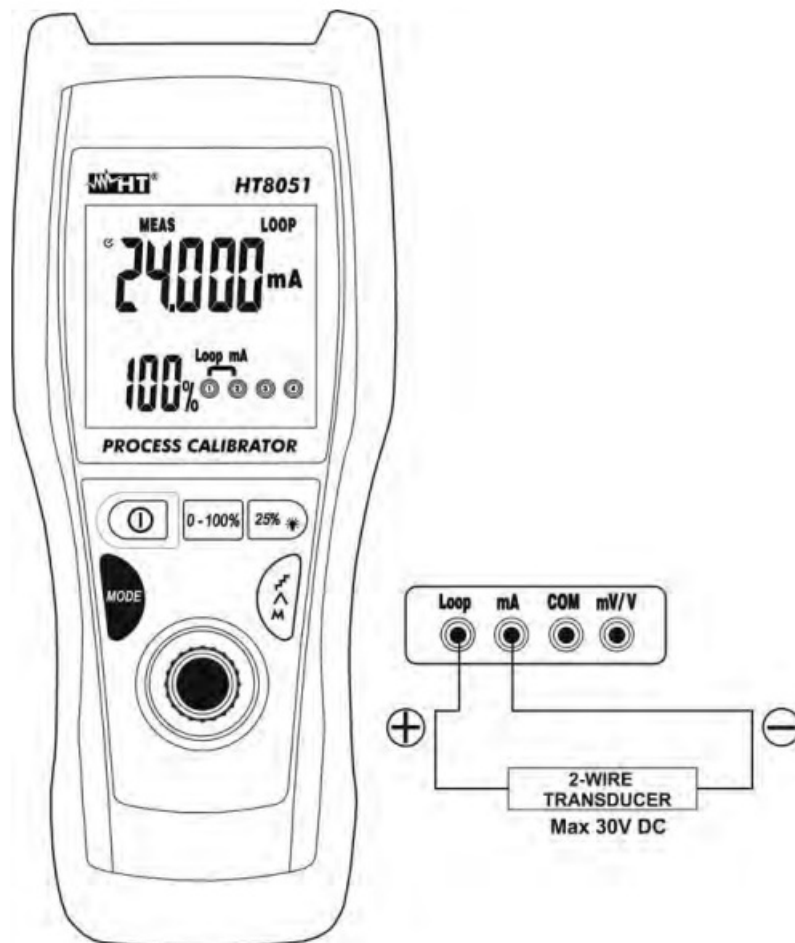

Fig. 7: Measuring output DC current from external transducers (Loop)
4. Connect the green lead and the black lead to the external transducer, respecting current polarity and direction (see Fig. 7).
6. The message “-OL-” indicates that the current being measured exceeds the maximum value measurable by the instrument. To generate a negative voltage value, turn the measuring leads in the opposite direction with respect to the connection in Fig. 7